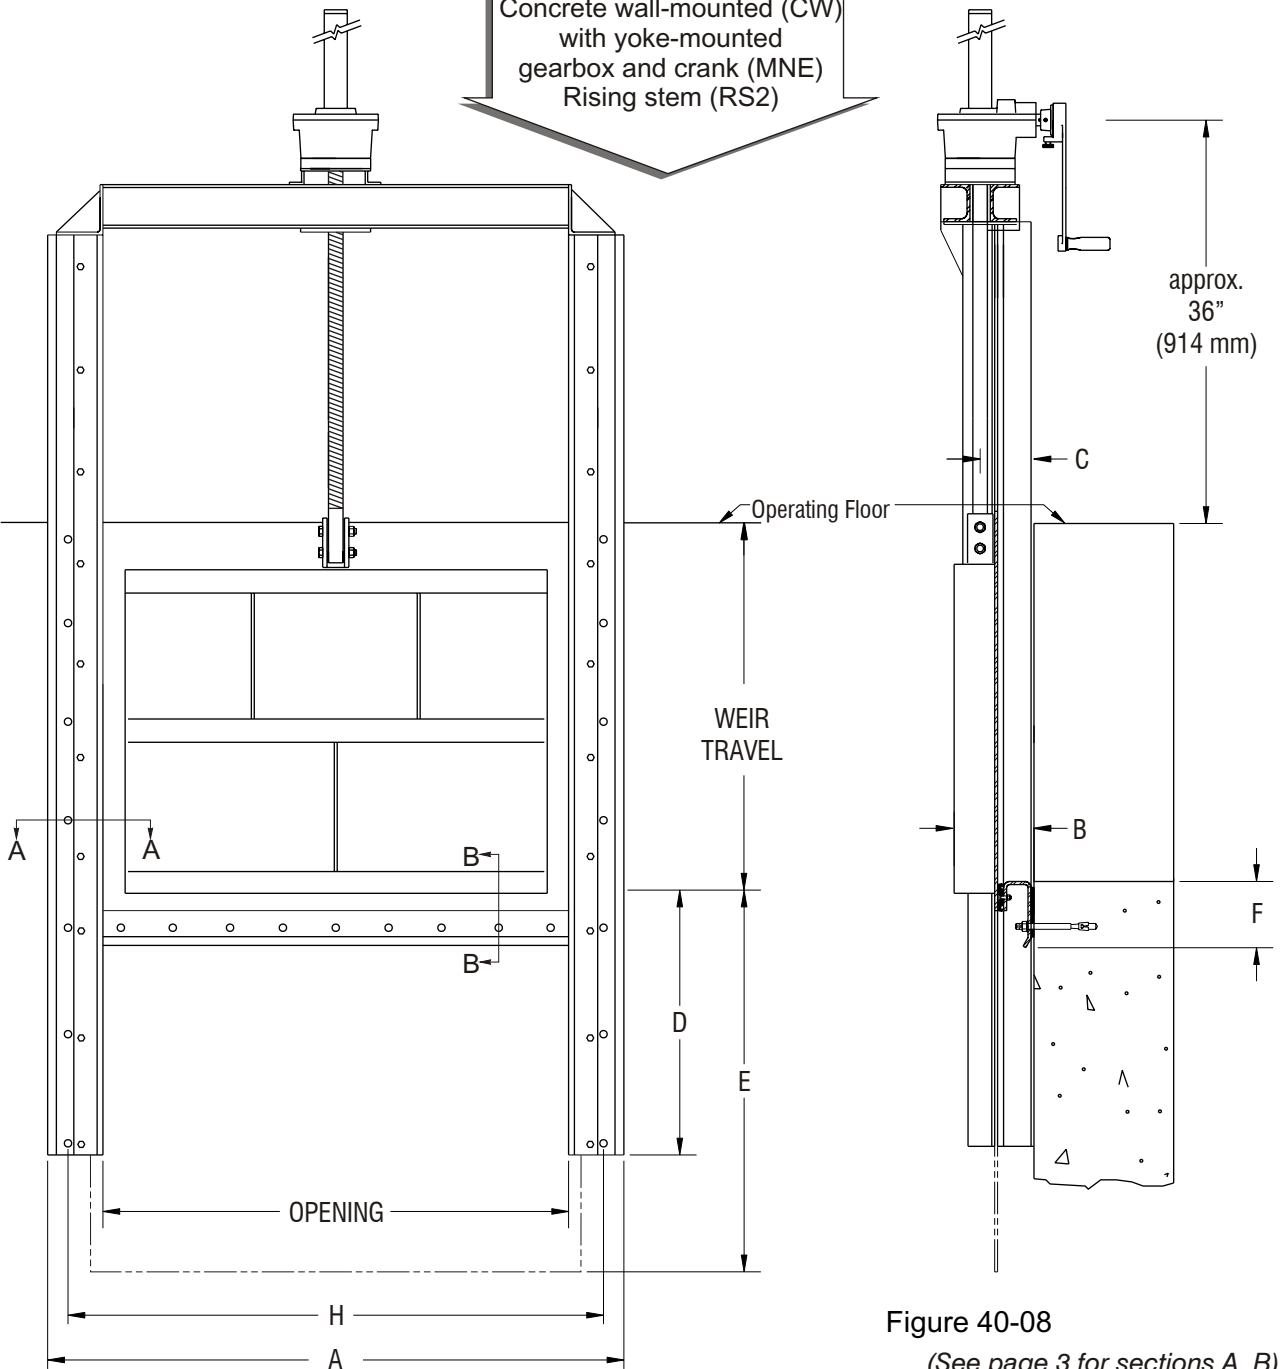

Figure 40-08
*(Details 40-02, 03 refer to figures 40-08 , 09, 10, 11 on pages 5, 6, 7 and 8)*